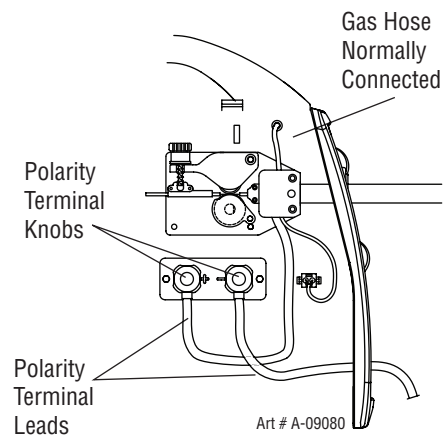

Figure 3-4: Connection for GMAW (reverse polarity DCEP)
3. Set up the polarity (as per Table 3-1 above) by removing the leads from the terminals and reversing them if necessary. Refer to Figure 3-4.